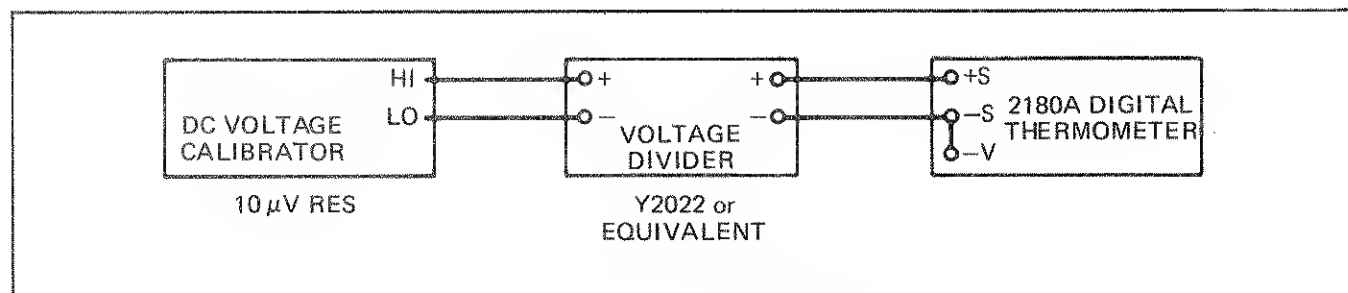

Figure 4-3. Calibration Connections
1. Connect the 2180A Digital Thermometer, DC Voltage Calibrator, and Voltage Divider as illustrated in Figure 4-3.